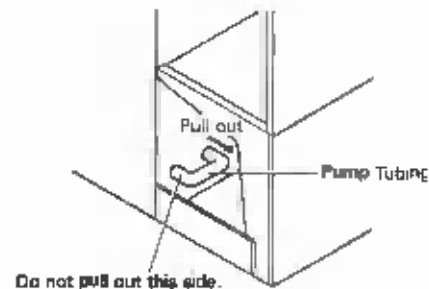

Fig. 4
- 3) Drain the Water Tank by removing the base cover and one end of the pump tubing. See Fig. 4.
- 6) Drain the Water Tank by removing one end of the Pump Tubing. See Fig. 4.
- 28) Drain the Water Tank by removing one end of the Pump Tubing. See Fig. 4.